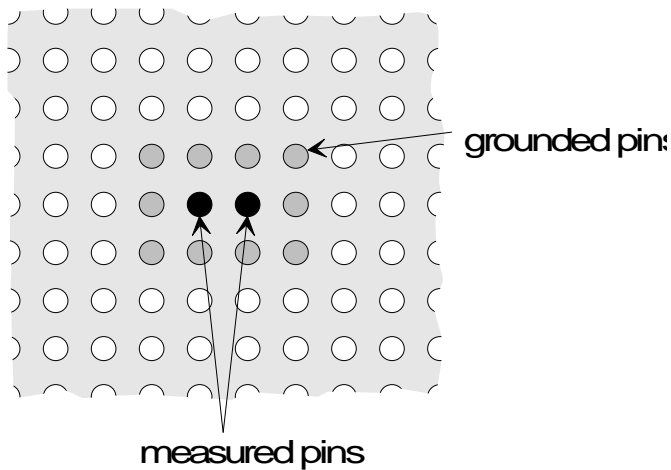

Figure 5 - Bandwidth measurement
1. The bandwidth for the 1mm BGA socket was determined from a loop-thru measurement on two adjacent pins. The nearest row of pins was grounded (see figure 5). The 1-dB bandwidth was 3.4 GHz, please see page 12 of the Appendix.